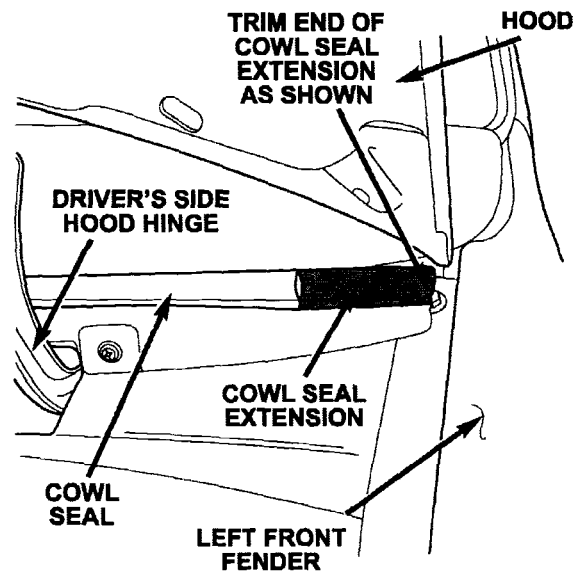

Figure 1
**Each dealer** to whom vehicles in the recall were invoiced will receive ONE (1) Wiring Harness Connector Repair Package.
2. Using Mopar glass cleaner and a shop cloth, clean the plastic cowl panel where the cowl seal ends on the driver's side of the vehicle (Figure 1).
3. Test fit the cowl seal extension. Cut the cowl seal extension length so that the seal stops at the end of the plastic cowl panel (Figure 1).